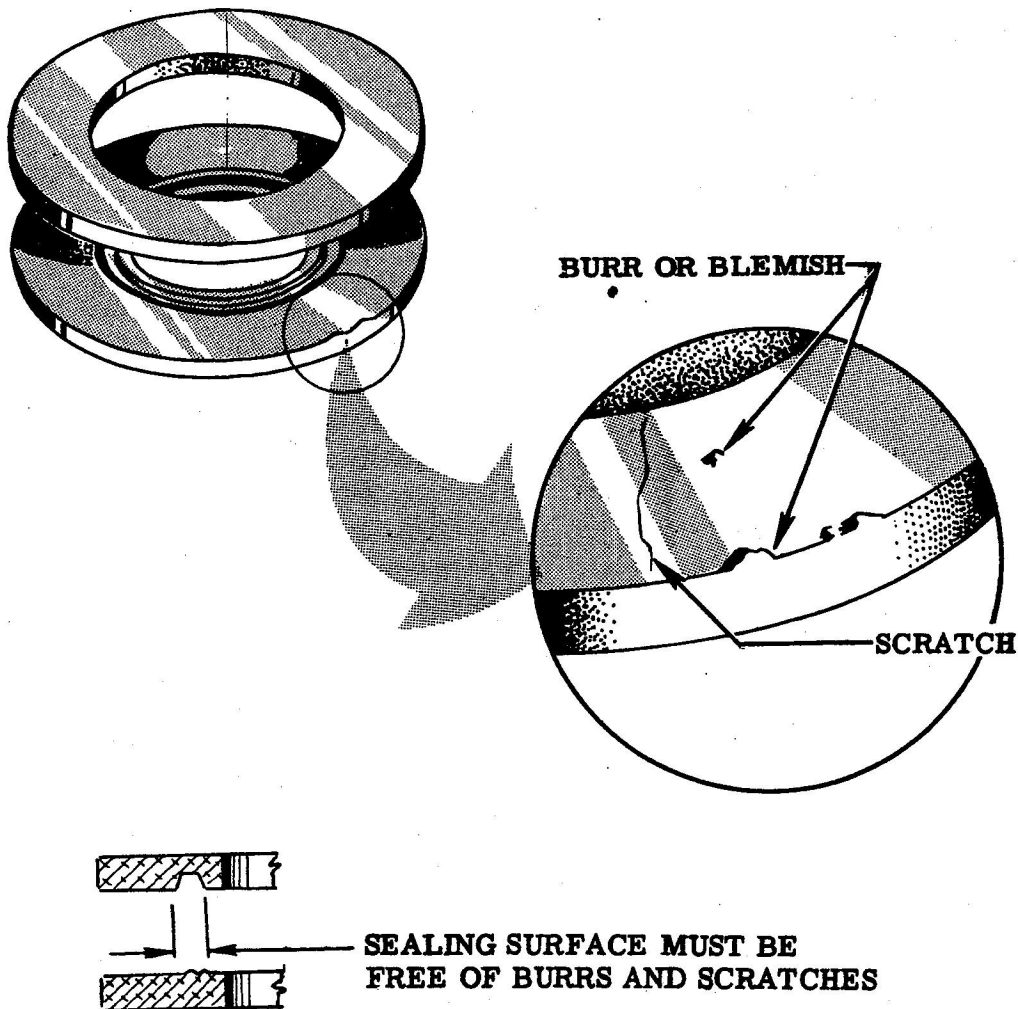

Figure 7
1. Scratches within the sealing area.	Not acceptable (see figure 7).
2. Burrs on mating surface.	Not acceptable (see figure 7).
1. Minor surface damage outside of "O" ring groove other than rust, corrosion or burrs.	Acceptable (see figure 7).
1. Minor surface damage outside "O" ring groove other than rust, corrosion or burrs.	Acceptable (see figure 7).